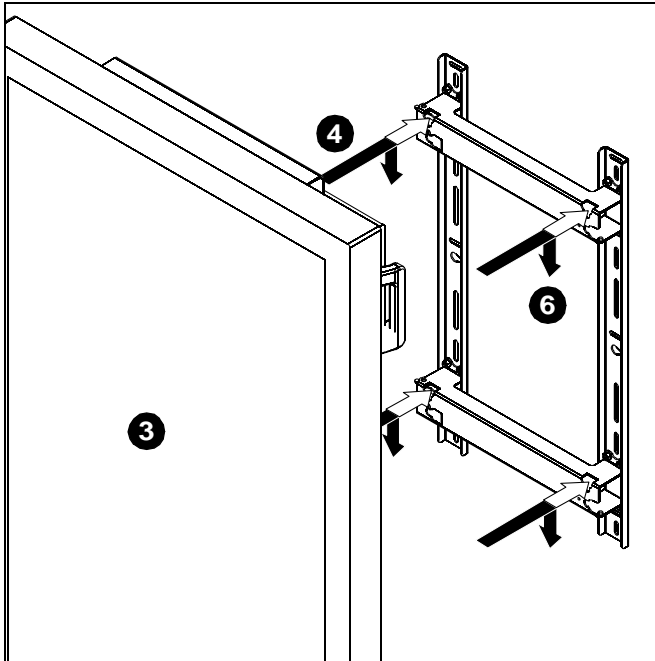

**Figure 18**
2. Move two locking flags (B) on wall mount (A) to the OPEN position. (See Figure 18)